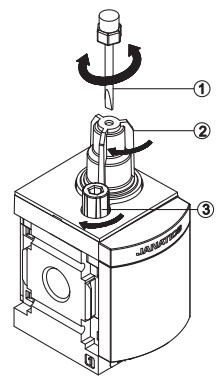

Fig.1
5. Use proper tool (1) to adjust the Needle. Recommended tightening torque: 0.5 Nm max. (fig.1).
6. Recommended tightening torque for oil filling plug (3) and oil drop indicator (2) is 1 Nm max. (fig.1).